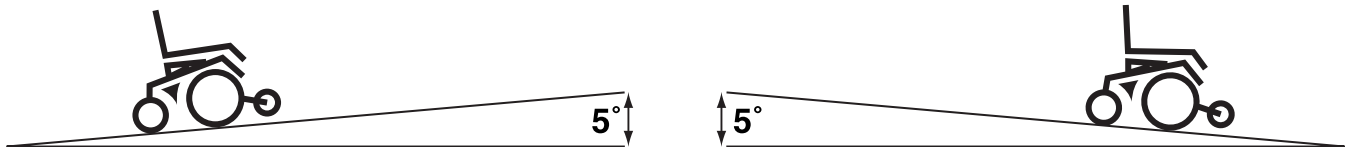

Figure 1. Maximum Safe Angle (Ascending and Descending)
**WARNING!** Even though your power chair is capable of climbing slopes greater than those illustrated in figure 1, do not, under any circumstances, exceed the incline guidelines or any other specifications presented in this manual. Doing so could cause instability in your power chair, resulting in personal injury and/or damage to your power chair.
In compliance with the Americans with Disabilities Act of 1990, all handicap public access ramps are required to have a maximum slope of 5°. Therefore, Pride recommends that the maximum slope of an incline you attempt to safely ascend or descend on your power chair does not exceed 5°. See figure 1.